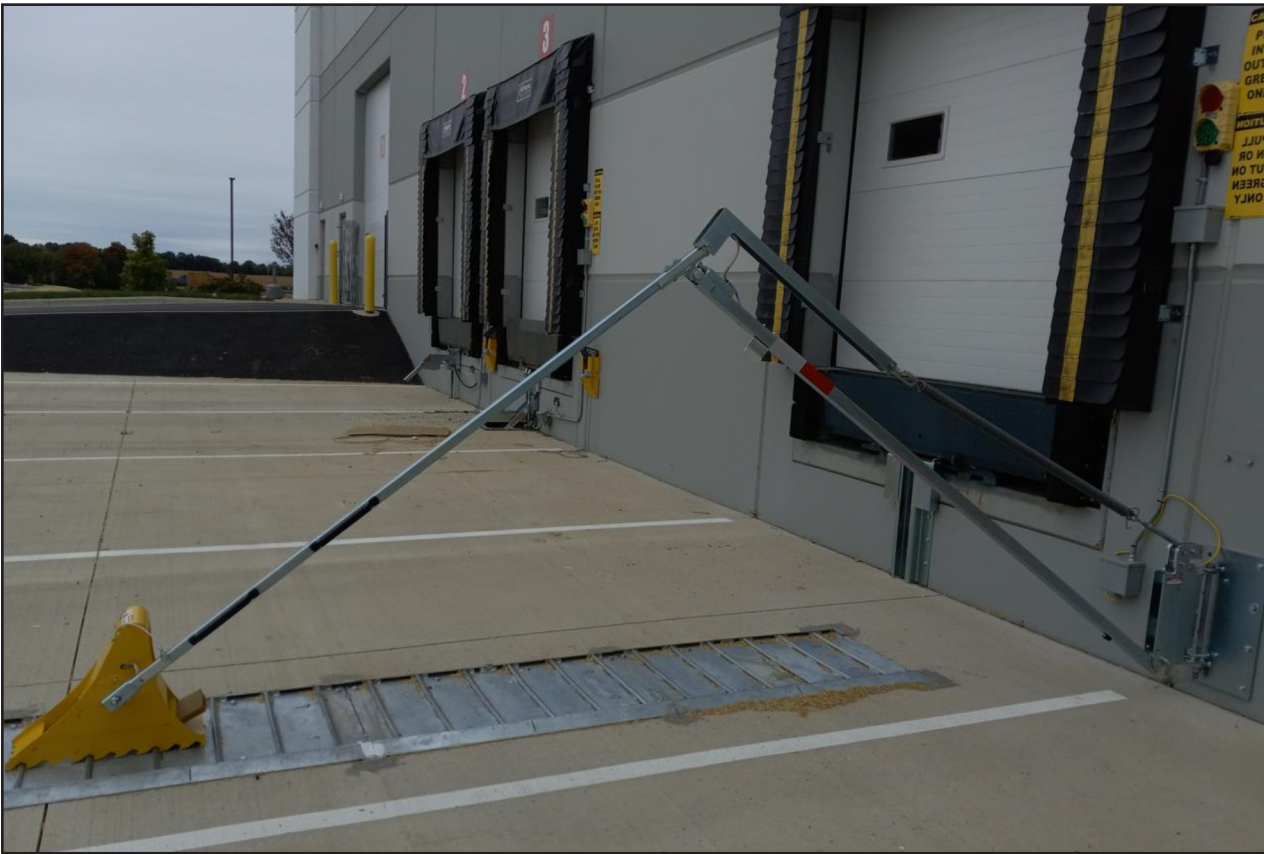

Figure 14
1. Verify articulating arm operating range. Extend arm and confirm it can travel to last section of ground plates. See **figure 14**.
1. Verify articulating arm operating range. Extend arm and confirm it can travel to last section of ground plates. See **figure 14** on page 18.